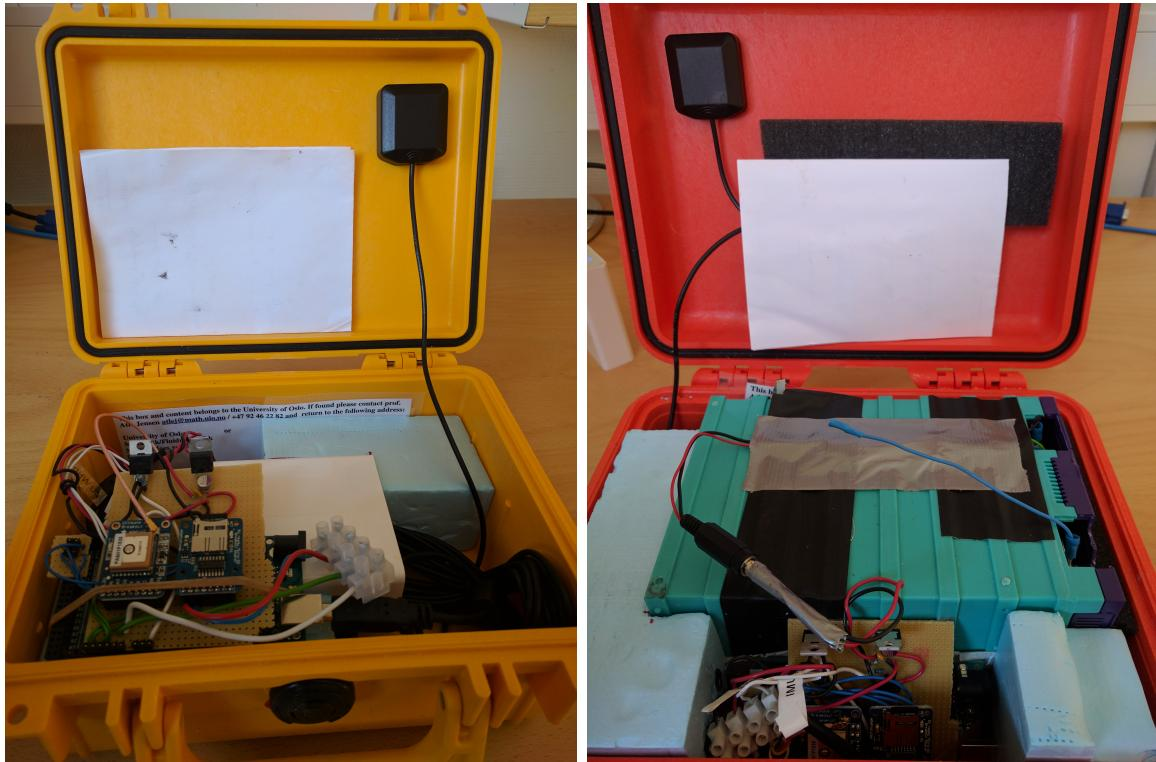

Figure 5: Loggers ready for closing the pelicases.
- Once you are sure that logging is performed nominally, make sure that all elements are securely disposed in the loggers (yellow loggers: electronics boards stable on the 3 pins, and powerbank stable in the foam with most cables stabilized under the powerbank; orange loggers: electronics board in the front slot, and stable foam; see Fig. 5). Then, close the pelicases. Be careful not to clamp cables when closing the pelicases. This can happen in particular with the cable to the GPS antenna. Clamping the cables can result in both cable damage and water infiltration.